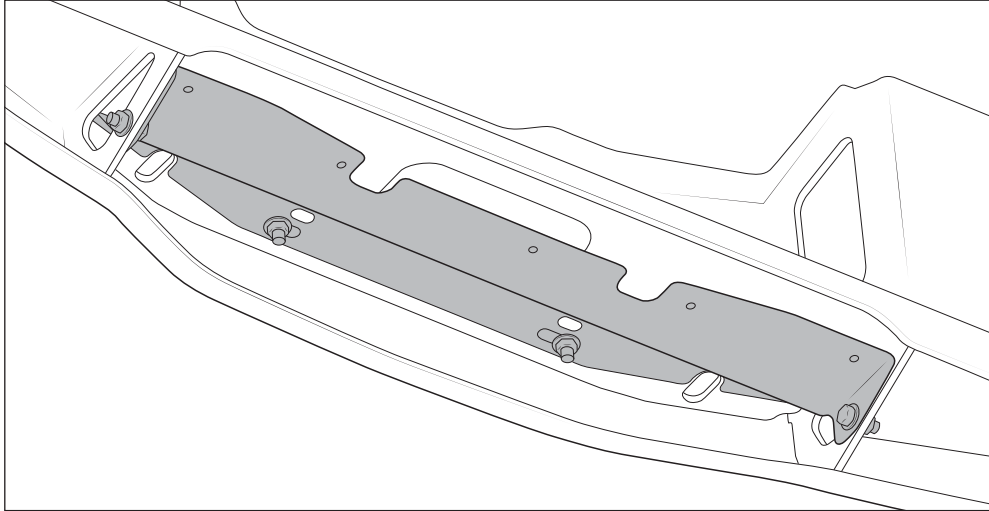

Figure 26
7. **2010–2013 trucks**—Install the AEV cooling shroud bracket to the bumper using the supplied 3/8" x 1" hardware (fig. 26). Make sure the bolts going through the winch mount are located so as not to interfere with the winch. **NOTE:** If the winch hardware is already using the front set of slots you can use this hardware to secure the cooling shroud bracket.